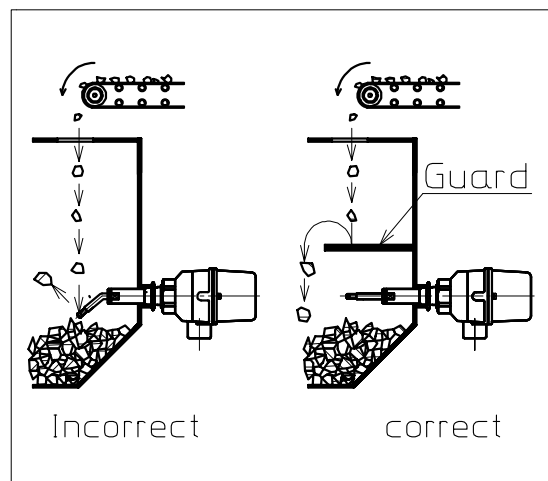

Fig. 4-7
- (9) Keep the detection rod out of the direct flow. Failure to do this may damage the sensor. Install the guard at least 10cm above the detection rod if necessary. [See Fig. 4-7]